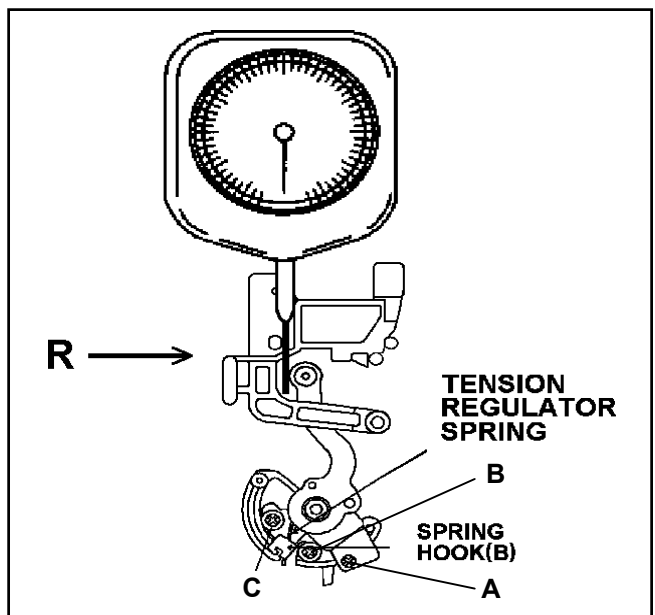

Figure 1-10
5. Push the tension post to the direction R by the tension gauge as shown in Figure 1-10 until the voltage at the test point becomes 1.2V (It means REV position).
7. After finish this adjustment, grew the screw (A), (B) and (C). The grew quantity at (B) is half of (A) and (C).